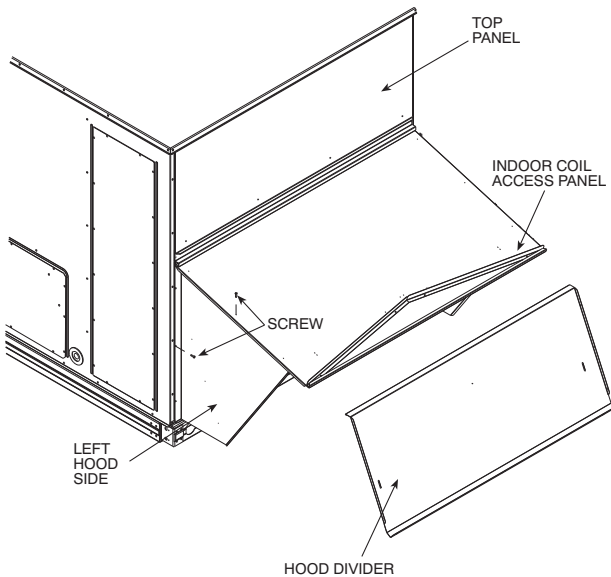

Fig. 16 — Economizer Hood Construction
2. Swing out indoor coil access panel and insert the hood sides under the panel (hood top). *Be careful not to lift the panel too far as it might fall out.* Use the screws provided to attach the hood sides to the hood top. Use screws provided to attach the hood sides to the unit. See Fig. 16.
4. Insert the hood divider between the hood sides. See Fig. 16 and 17. Secure hood divider with 3 screws on each hood side. The hood divider is also used as the bottom filter rack for the aluminum filter.